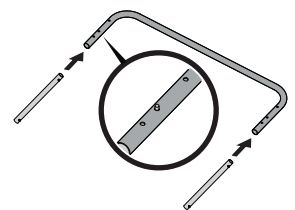

Figure 9
13. Install four adjustment tubes into the two u-shape tubes, sliding until spring buttons snap into the middle holes as shown in Figure 9.